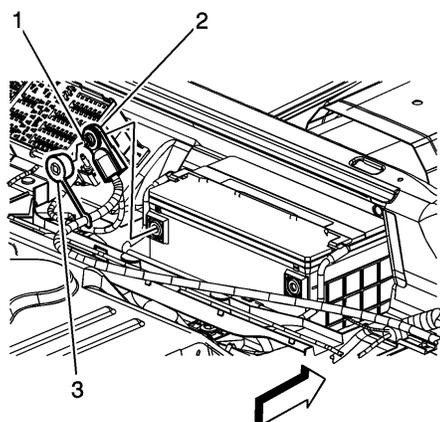

Fig. 3 Battery positive cable disconnection
7. Open battery positive cable cover (3) and position aside, Fig. 3.
8. Loosen battery positive cable bolt (1), Fig. 3.
4. Connect battery positive cable (2) to battery, Fig. 3. Torque battery cable bolt to 13 ft. lbs.